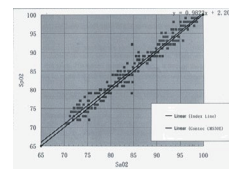
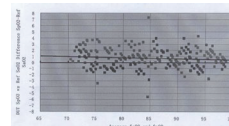

Figure 2 SpO₂ regression plot
Figure 3 Bland-Altman plot
- Measurement Accuracy:** ±2% in stage of 70% ~ 100% SpO₂, and meaningless when stage being smaller than 70%; ±2 bpm during the pulse rate range of 30 ~ 99 bpm and ±2% during the pulse rate range of 100 ~ 250 bpm. Clinical Trial :SpO₂ regression plot & Bland-Altman plot. Refer to Figure 2 & Figure 3.